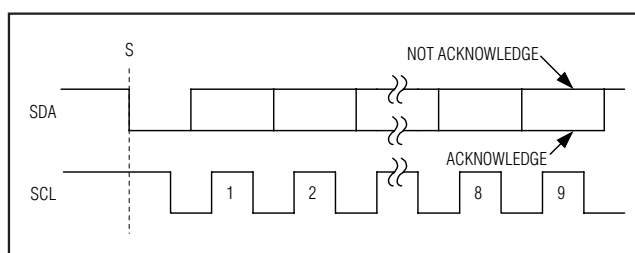

Figure 6. Acknowledge Bits
Data transfers are acknowledged with an acknowledge bit (A) or a not-acknowledge bit ( $\bar{A}$ ). Both the master and the MAX11606–MAX11611 (slave) generate acknowledge bits. To generate an acknowledge, the receiving device must pull SDA low before the rising edge of the acknowledge-related clock pulse (ninth pulse) and keep it low during the high period of the clock pulse (Figure 6). To generate a not-acknowledge, the receiver allows SDA to be pulled high before the rising edge of the acknowledge-related clock pulse and leaves SDA high during the high period of the clock pulse. Monitoring the acknowledge bits allows for detection of unsuccessful data transfers. An unsuccessful data transfer happens if a receiving device is busy or if a system fault has occurred. In the event of an unsuccessful data transfer, the bus master should reattempt communication at a later time.